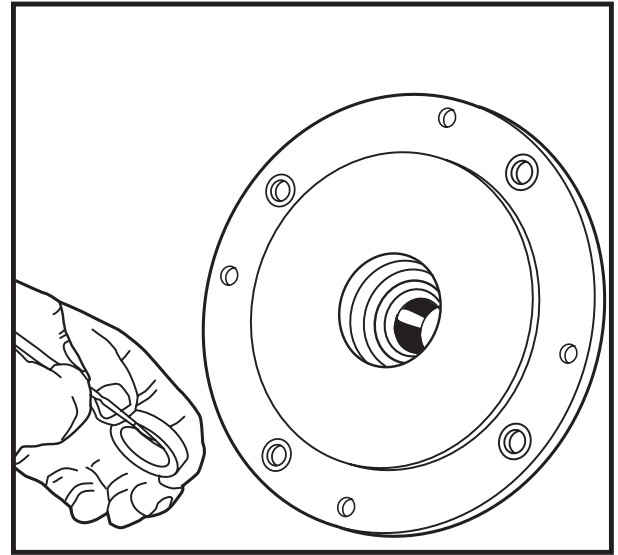

Fig. 20
11. Use care to avoid touching sealing faces with hands, use protective cardboard circle provided with seal, while handling. Use an artists brush to coat bottom outside portion of rubber retaining boot with conservative application of STP or equivalent lubrication to ease installation. See Figure 20.